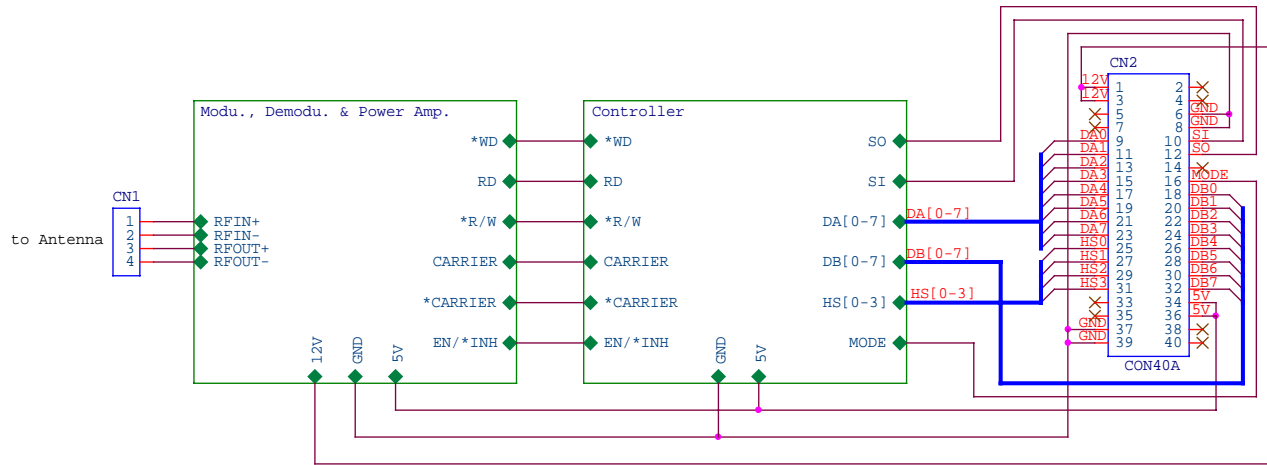
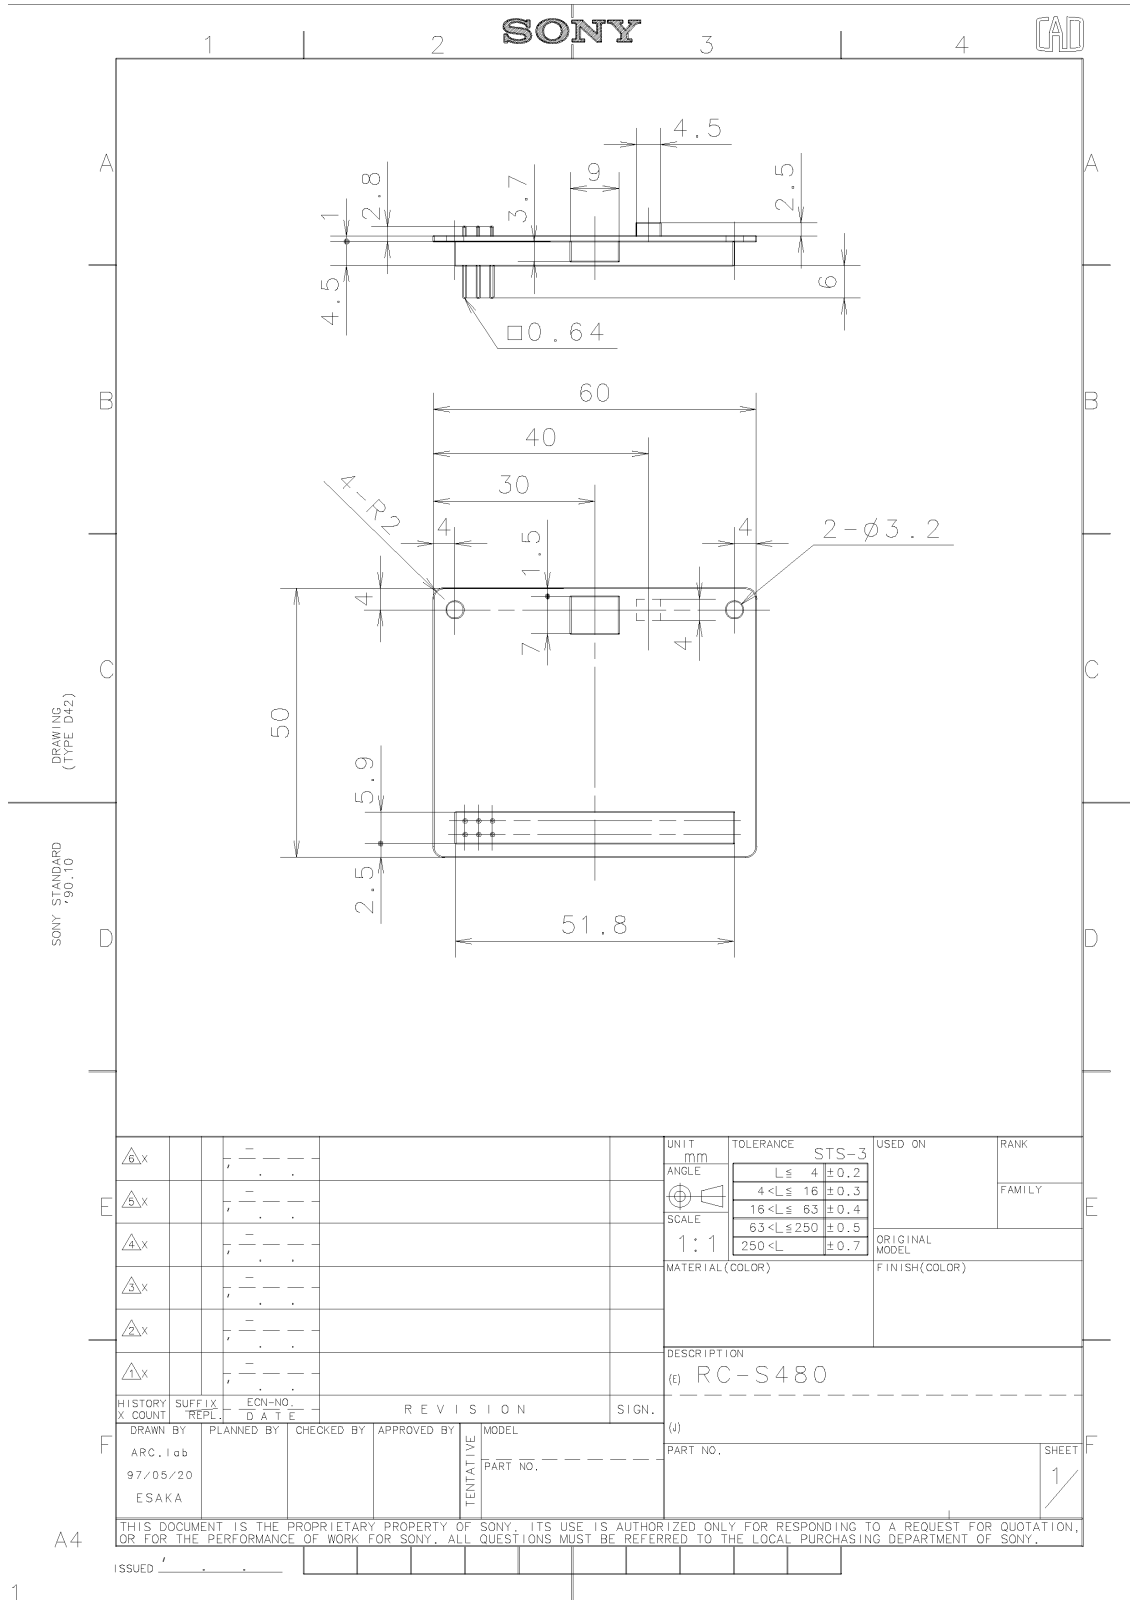

Fig.4 : Pin Assignment of Connectors CN1-2
Fig.5 : RF/Control Board (B-antenna & C)
- Dimensions (see Fig.5 and 6)
- Mounting Holes (see Fig.5,6)
The interface connector is a 40-pin double row C-antennaconnector located at the lower edge of the RF/Control board which is shown in the schematic drawing of Fig.5. The pitch of connector pins is 2.54mm.Connector pins are gilded.
The left end of the bottom row of connector pins is No. 1. Pin assignment of the connector (CN2) is shown in Fig. 4 and Table 4.
- Dimensions (see Fig.5 and 8)
- Mounting Holes (see Fig.5 and 8)
The interface connector is a 40-pin double row C-antennaconnector located at the lower edge of the RF/Control board which is shown in the schematic drawing of Fig.5. Connector pins are gilded. The left end of the bottom row of connector pins is No. 1. Pin assignment of the connector (CN2) is shown in Fig. 4 and Table 4.